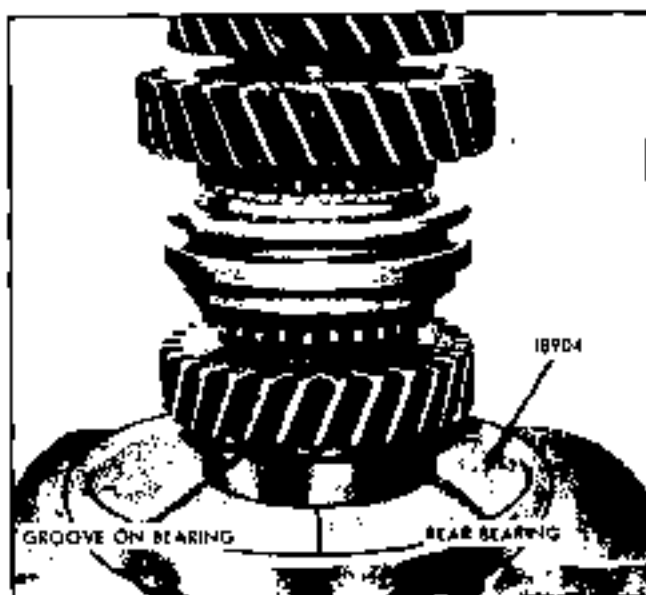

Fig. 7B-25 Installing Rear Bearing
12. Install extension housing. Spread snap ring in housing to allow snap ring to drop around rear bearing (Fig. 7B-13). Press on end of mainshaft until snap ring engages groove in rear bearing.